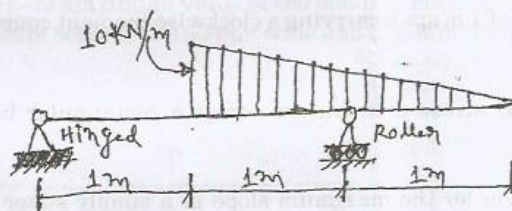

Fig. 2
12. a) Analyze the beam shown in Fig. 2 and draw the BMD indicating the salient points in it. (3+6+4)